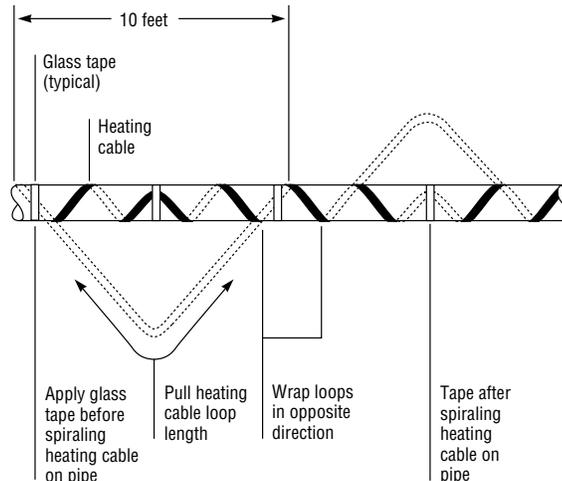

Figure 1. Spiraled heat tracing
- When the design calls for spiraling, begin by suspending a loop every 10 feet as shown in Figure 1. To determine the loop length, obtain the spiral factor from Table 1 or 2 and multiply by 10. For example, if a spiral factor